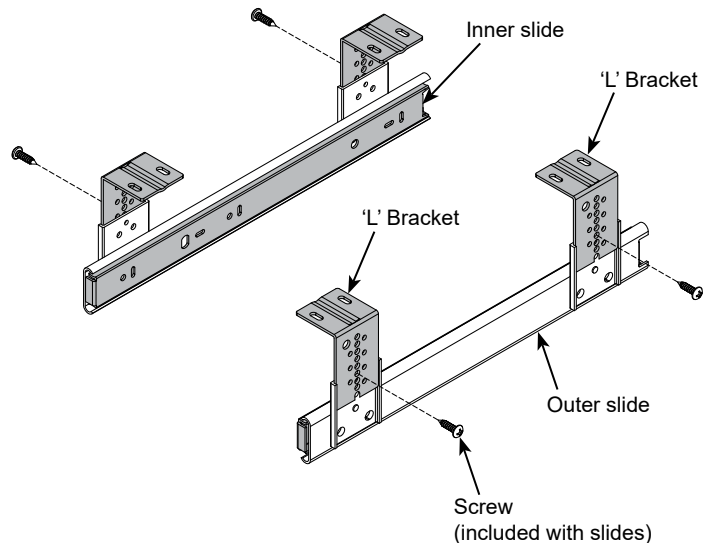

Figure 1
1. Attach the 'L' brackets to each outer slide with screws (included with slides). The brackets need to be attached "inboard" (facing each other). **Figure 1.**